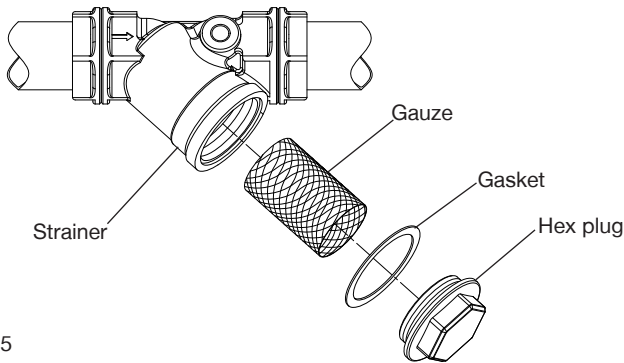

Fig. 15
The strainer is located in the inlet pipework to the pump (Fig. 15). The gauze filter is removed as follows:-
- Remove screwed hexagonal plug from strainer body taking care to collect or absorb any residual water (Fig. 15).